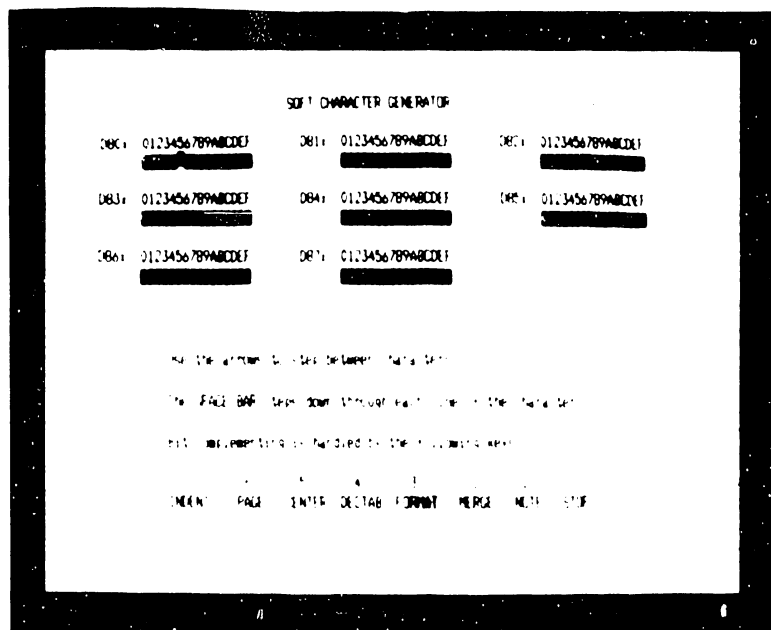

FIGURE 8-5 SOFT CHARACTER GENERATOR MEMORY TEST
Soft Character Generator Memory (Figure 8-5)
1. Press any key other than SHIFT-CANCEL to freeze the display when the blocks are ON. The top left block is raised to show it is selected for modification. Use the cursor control keys to select other blocks for modification (see Figure 8-5).